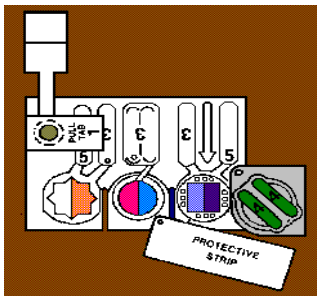

Figure 2, M256A1 Chemical Agent Detection Kit
- **M256A1 Chemical Agent Detection Kit:** TO 11H2-21-1: This kit will detect vapor nerve, blister, and blood agents. In addition to supplying these to your NBC monitoring teams, you can train your shelter, contamination control, and open air CCA teams to run these tests. To receive an even greater sampling capability for the base, you may train other units to run these tests as well and report the results to their control centers. Although this kit appears easy to perform, it is critical that you follow TO procedures. See Figure 2.